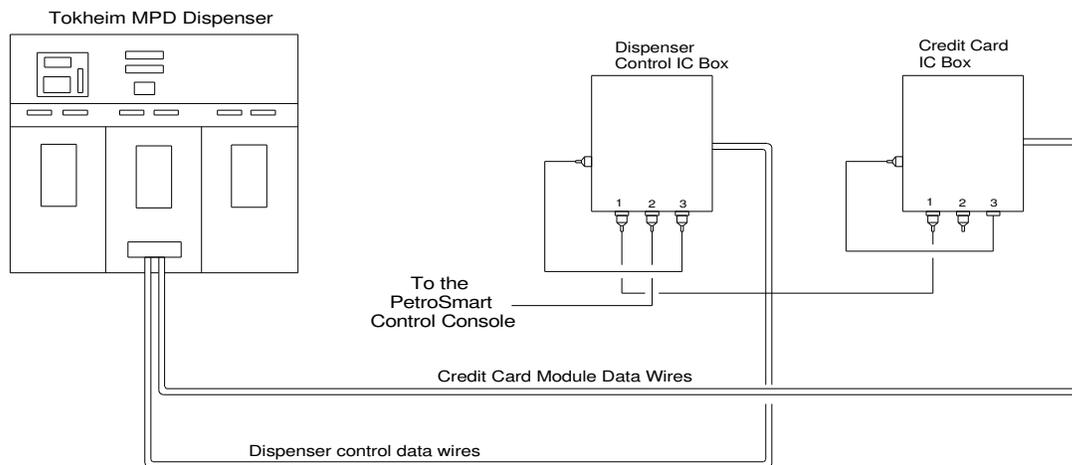

Fig. 1, PetroSmart Data Wire Diagram
4. **Connecting the Console to the Dispenser IC BOX** - Connect the data cable from the “PUMP CONTROL” connector on the PETROSMART EZ console to the connector marked (#3) on the dispenser interconnect box. Refer to Fig. 1.
5. **Connecting the Dispenser IC Box to the DPT CREDIT CARD MODULE IC Box** - Connect the data cable from the(#1) connector on the Dispenser IC Box to the (#1) connector on the DPT CREDIT CARD MODULE IC box. Refer to Fig. 1.